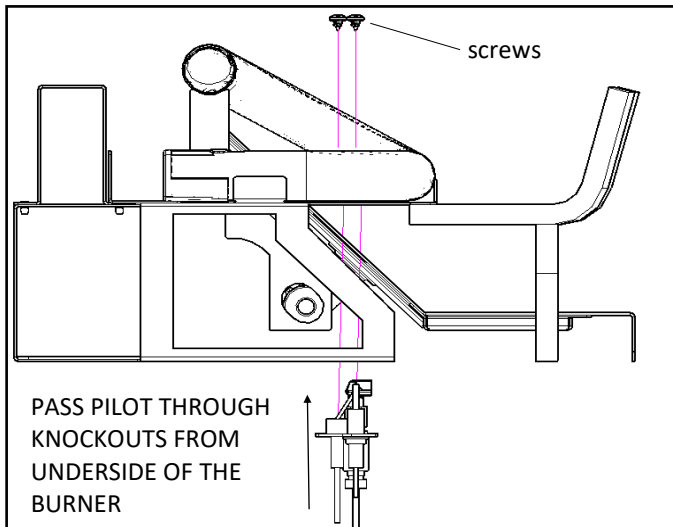

FIGURE 5
3. Feed the pilot assembly through the bottom of the burner cut out and mount the bracket using the provided screws/nuts. **Figure 5 & 6**